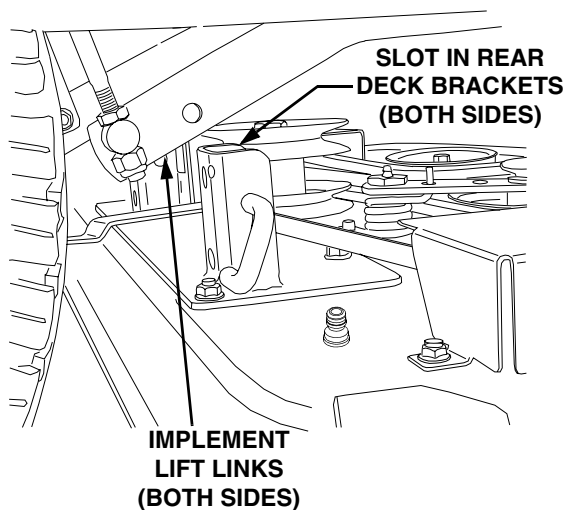

Figure 43
3. Make sure the slot in both rear deck brackets aligns with the implement lift link on each side of the tractor (See Figure 43).